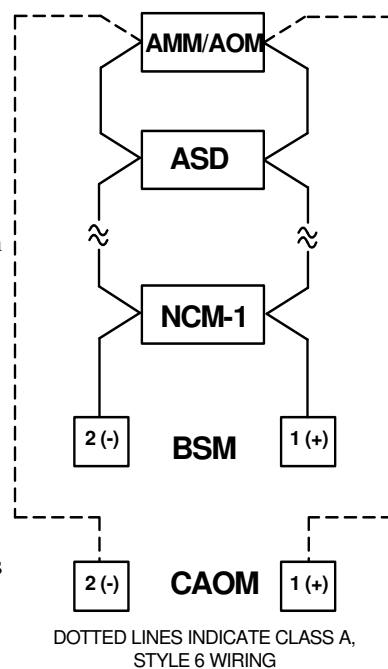

Figure 3.3.1 Notification Appliance Circuit Wiring
The 7100 Series provides two (2), 24 VDC Class B, Style Y notification appliance circuits. Class A, Style Z operation is accomplished by adding the Class A Option to the (CAOM) Module. (See Figure 3.3.1)